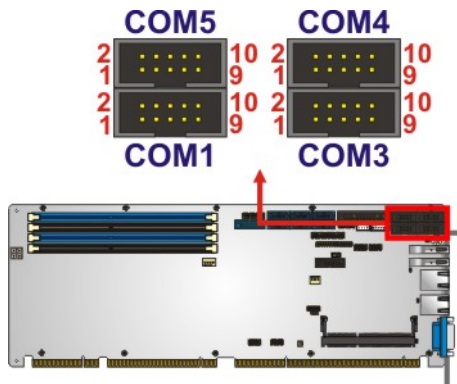

Figure 3-20: Serial Port Connector Location
- CN Location:** See Figure 3-20